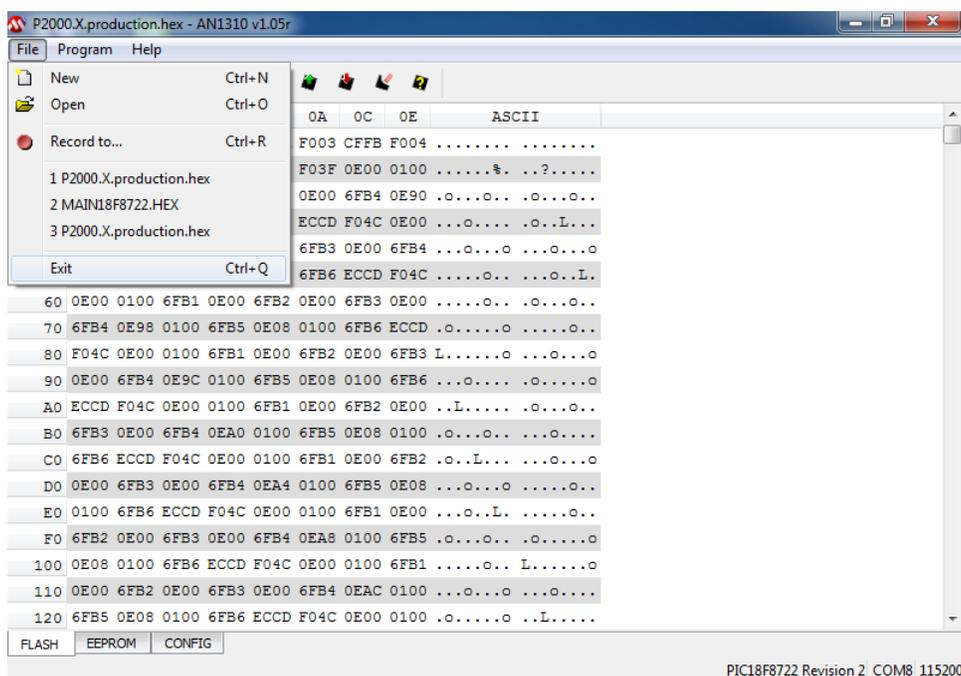

Figure 3.21
- Close the bootloader software (Figure 3.21).